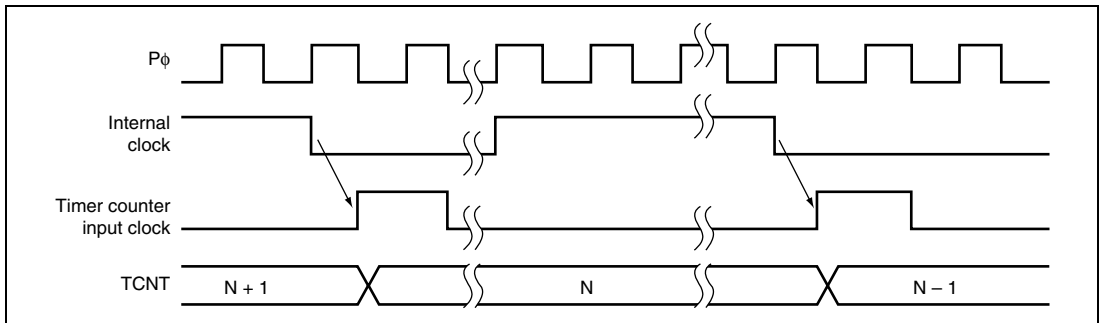

**Figure 12.4 Count Timing when Internal Clock Is Operating**
1. Internal Clock Operation: Set the TPSC2 to TPSC0 bits in TCR to select whether peripheral module clock  $P\phi$  or one of the four internal clocks created by dividing it is used ( $P\phi/4$ ,  $P\phi/16$ ,  $P\phi/64$ ,  $P\phi/256$ ). Figure 12.4 shows the timing.